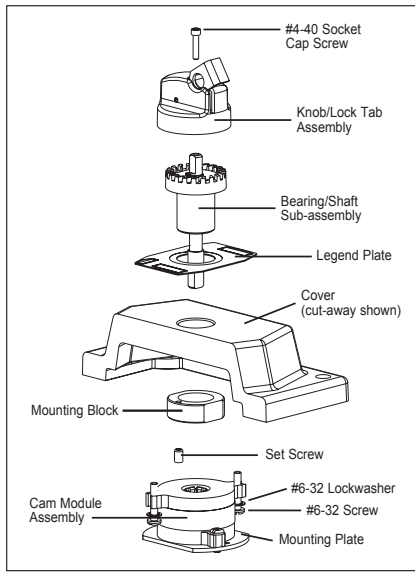

Figure 11. Assembly of Selector Switch Operator
- Referring to Figure 11, install bearing/shaft sub-assembly to the front side of the cover by threading it down tight to the cover in the desired location. Use a DL Legend Plate, if required, as noted in 'Assembly of Pushbuttons'.
- This step will allow the contact block(s) to be in the proper position. Fasten the mounting block to the bearing/shaft sub-assembly on the inside of the cover. Tighten the set screw using a 1/16" Allen wrench, thereby locking the mounting block to the cover. Orient the mounting plate on cam module assembly so that the two (2) flat sides are parallel with the long side of the cover. Then, slide operator module assembly onto shaft. Fasten the cam module assembly to the cover using #6-32 lockwashers and screws.